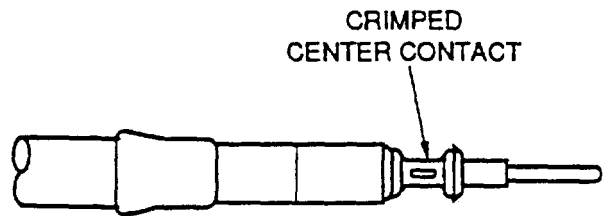

Figure 37. Center Contact Crimped
f. Install center contact and cable assembly into outer contact until it bottoms (Figure 37).
f. As shown in Figure 37, crimp center contact to center conductor using crimp tool frame M22520/2-01 and positioner M22520/2-28.